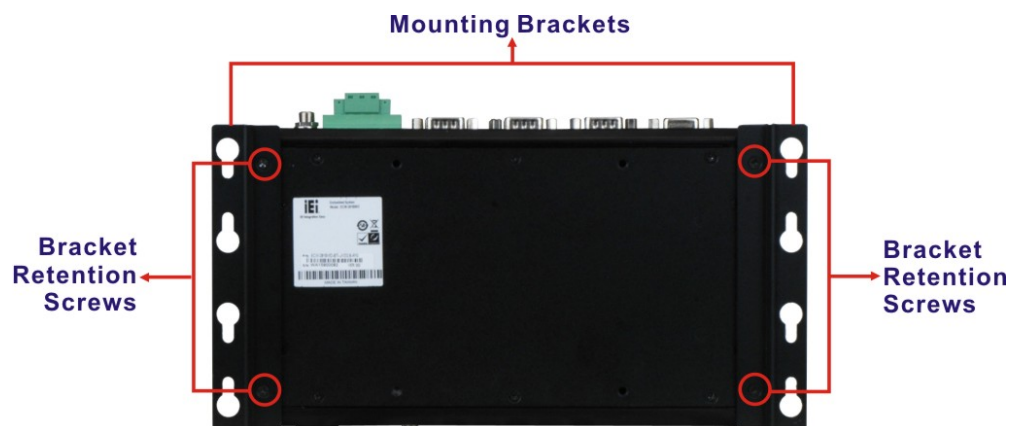

Figure 3-22: Mounting Bracket Retention Screws
Step 3: Secure the brackets to the system by inserting two retention screws (M3*5) into each bracket (**Figure 3-22**).